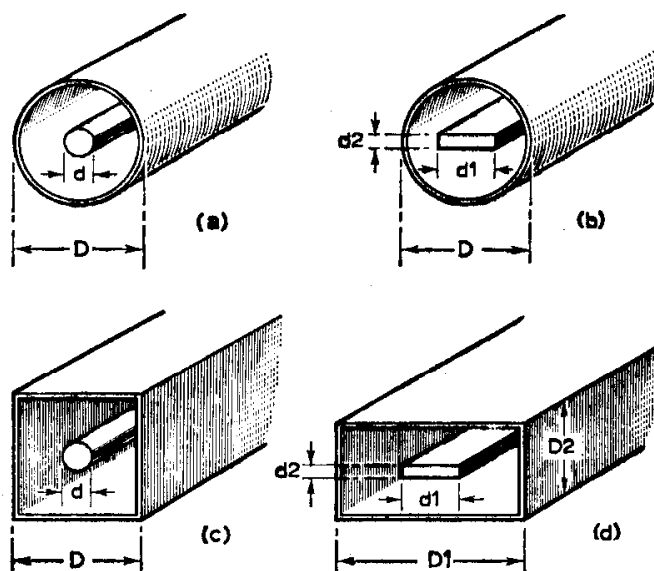

Fig. 6: Coaxial structures. The characteristic impedances of these are given in the text.
Fig. 6: Picture aspect and scan format. The picture and sync signals occupy ABCD, the scan format. Line and field sync pulses take the proportions of the lines shown, leaving AEFG for the screen: the aspect ratio is 4:3. Twin-interlace traces 377 visible lines out of its total 405. Three-field scanning can trace 583 contiguous lines out of 625. The scan unit and scan format have the same shape, ratio 3:2.
Figure 6 represents (a) part of a line of theoretical square elements, 1 to 6, with element E indicating the thickness and scanning pitch. Practical half-element point S, starting at 1, is clearly able to move freely before entering 2. The total movement of S within 3 is seen to cover a practical "scan unit" SU, which is one element long but only two-thirds as high. The dimensional ratio of SU is 3 : 2, so this must replace the "square element" idea in any formula intended for a really "complete" picture traced to cover the screen with contiguous lines.
Figure 6 (b) represents the scan format of our 405 standard; as it is at present, and with its potential to improve to 625 quality shown for comparison by measurement in real scan units whose shape (see SU) is identical to that of format A B C D (ratio 3 : 2). The elemental dimensions (in brackets) of the current vision channels are 405 high and approximately 614 wide. Each picture line (AE) is about 503 elements long, but only 377 lines are traced within AEFG by twin-interlacing (188½ lines per field) to cover two-thirds of the screen, leaving room for a 50 per cent increase, from 405 to over 600 lines.
Figure 6 shows a number of coaxial structures which can be used or which are, in fact, already in use. That at (a) is the type of structure that
The nature and dimensions of the coaxial structure used determines the Z_0 of the resonator and, in turn, the Z_0 effects the resonant length. Z_0 also influences the loading of the line to the active circuit device (i.e., transistor or valve) and in this way has a bearing on the response bandwidth, in rather a similar manner to R_d of an LC circuit. The Z_0 of pure coaxial ((a) in Fig. 6) is expressed as:
Resonators should be constructed with fairly thick pieces of tinned or silver-plated sheet steel, and the inner conductor should be supported within the centre of the outer conductor on low-loss insulating material. Copper tube can be used for the type of resonator shown at (a) in Fig. 6, and low-loss discs for pushing into the tube can be made for holding the inner conductor concentric. The far end of the tube can be shorted to the inner conductor by a metal disc of diameter equal to the outer diameter of the tube. At the launching end it is not too difficult to arrange for the transistor to be mounted along with its supply resistors and etc. In this way a very com-